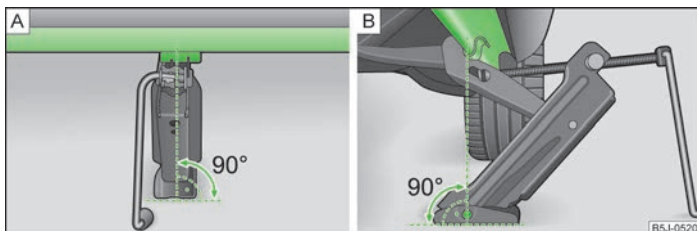

Fig. 175 Attach lifting jack
- \gg Align the lifting jack so that its claw grasps the web \gg Fig. 175 - **B** below the embossing in the side surface of the lower sill.
- \gg Ensure that the entire surface of the lifting jack base plate rests on level ground and is located in a vertical position to the area \gg Fig. 175 where the claw grasps the web.